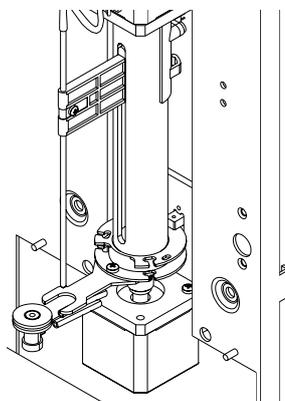

Figure10-48
2. Pull the loosen probe wipe upward to remove the wipe block and disconnect the tubes from the wipe block (pay attention to the correspondence between the tubes and the connectors), as Figure10-48 shows;